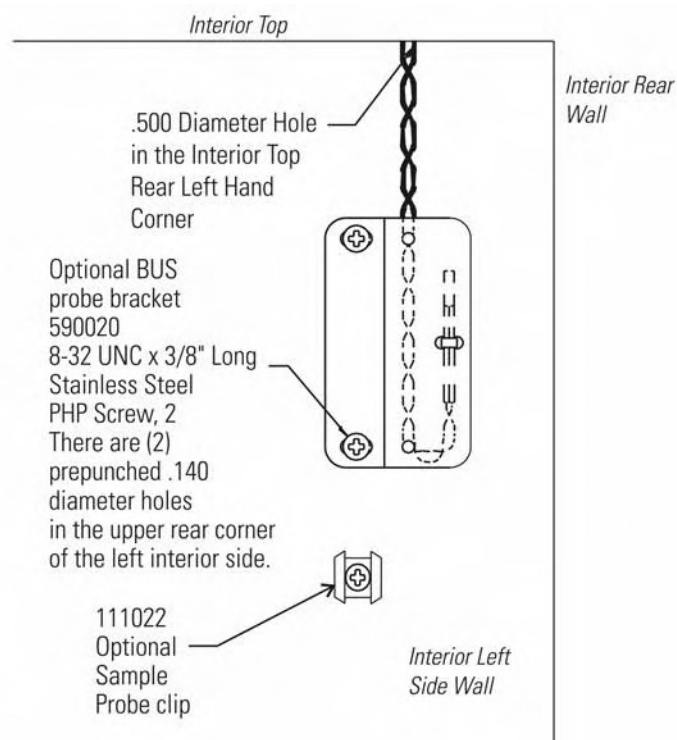

Figure 6-4. Mounted
1. Locate the 0.500" pre-punched hole in the upper left hand back corner of the chamber ceiling. Remove the tie wrap securing the coiled probe/solenoid harness. Uncoil the probe lead and run the probe tip (approximately 12") down through 0.500" porthole (Figure 6-4).
3. Tap #8-32 the two pre-punched holes located on the interior left wall of the freezer. Mount the bracket. Figure 6-4 shows the back-up probe mounted on the interior left side wall of the freezer.